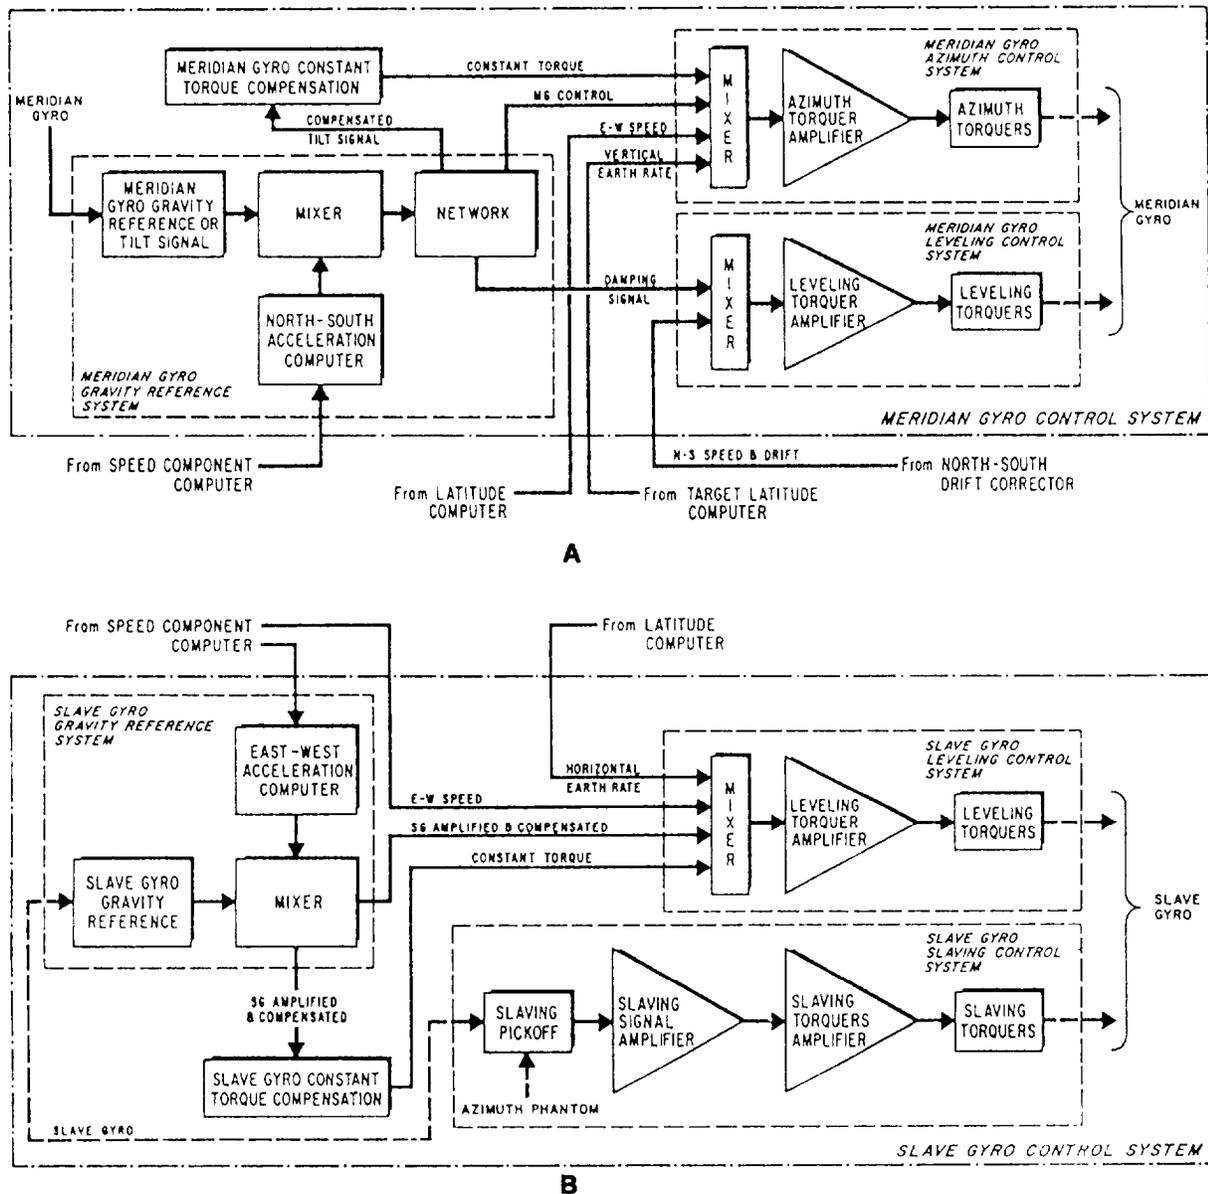

Figure 4-26.—A. Meridian gyro control system. B. Block diagram of a slave gyro control system.
All controls for the Mk 19 Mod 3A gyrocompass system (fig. 4-26, views A and B) are contained in four
**MERIDIAN GYRO GRAVITY REFERENCE SYSTEM.**— The gravity reference system (fig. 4-26, view A) consists of the meridian gyro gravity reference (the electrolytic bubble level and excitation transformer), the north-south acceleration computer, a mixer, and its associated network.
**MERIDIAN GYRO AZIMUTH CONTROL SYSTEM.**— The azimuth control system consists of a mixer, an azimuth torque amplifier, and the azimuth torquers. (See fig. 4-26, view A.) The mixer input signals are the meridian control signal from the gravity reference system, an east-west speed signal from the tangent latitude computer, and a vertical earth rate compensation signal from the latitude computer. The azimuth torque amplifier output is fed to the control fields of the two azimuth torquers, which apply torque to precess the meridian gyro, toward the meridian, in the same manner as described in the Mk 23 system.
**MERIDIAN GYRO LEVELING CONTROL SYSTEM.**— The meridian gyro leveling control system (fig. 4-26, view A) consists of a mixer, the leveling control amplifier, and the leveling torque. The input signals to the mixer are the damping signal from the gravity reference system, and the north-south speed plus drift compensation signal. The amplifier output supplies the leveling torque control field, which produces the torque to level the meridian gyro.
The slave gyro control system (fig. 4-26, view B) consists of the slave gyro gravity reference, leveling control, and slaving control systems, and the slave gyro constant torque compensation.